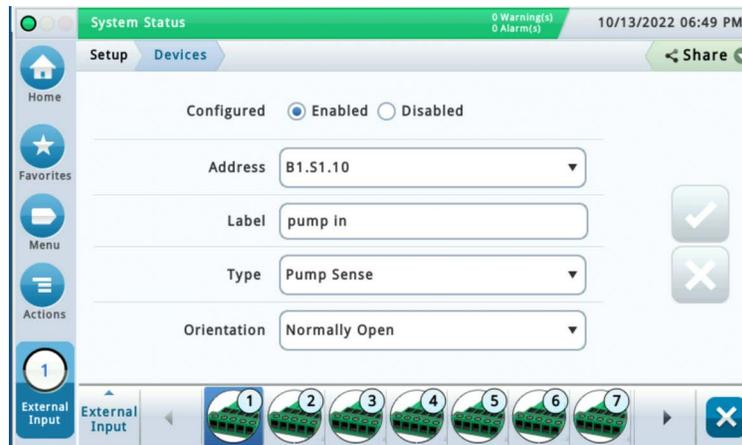

Figure 4. Example External Input Setup Screen
1. Touch **Menu>Setup>Devices** and touch the External Input button (see Item 3, Figure 1) to open the Pump Sense External Input setup screen (see Figure 4).
8. Touch the **Pump Sense** field and select the External Input that was previously configured in **Devices>External Input** for the diesel pump, e.g., External Input 1: pump in (ref. Figure 4).